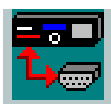

Figure 5-36 IPScom Program Icon
An Auto-Install program will establish a program folder (Becoware) and sub-directory (IPScom). After installation, the IPScom program item icon (see Figure 5-36) is located in Becoware. The default location for the application files is on drive C:, in the new subdirectory "IPScom" (C:\Becoware\IPScom).
2. Select the IPScom icon (Figure 5-36) from the Becoware folder or Desktop. The IPScom **Main Screen** (Figure 3-2) is displayed.